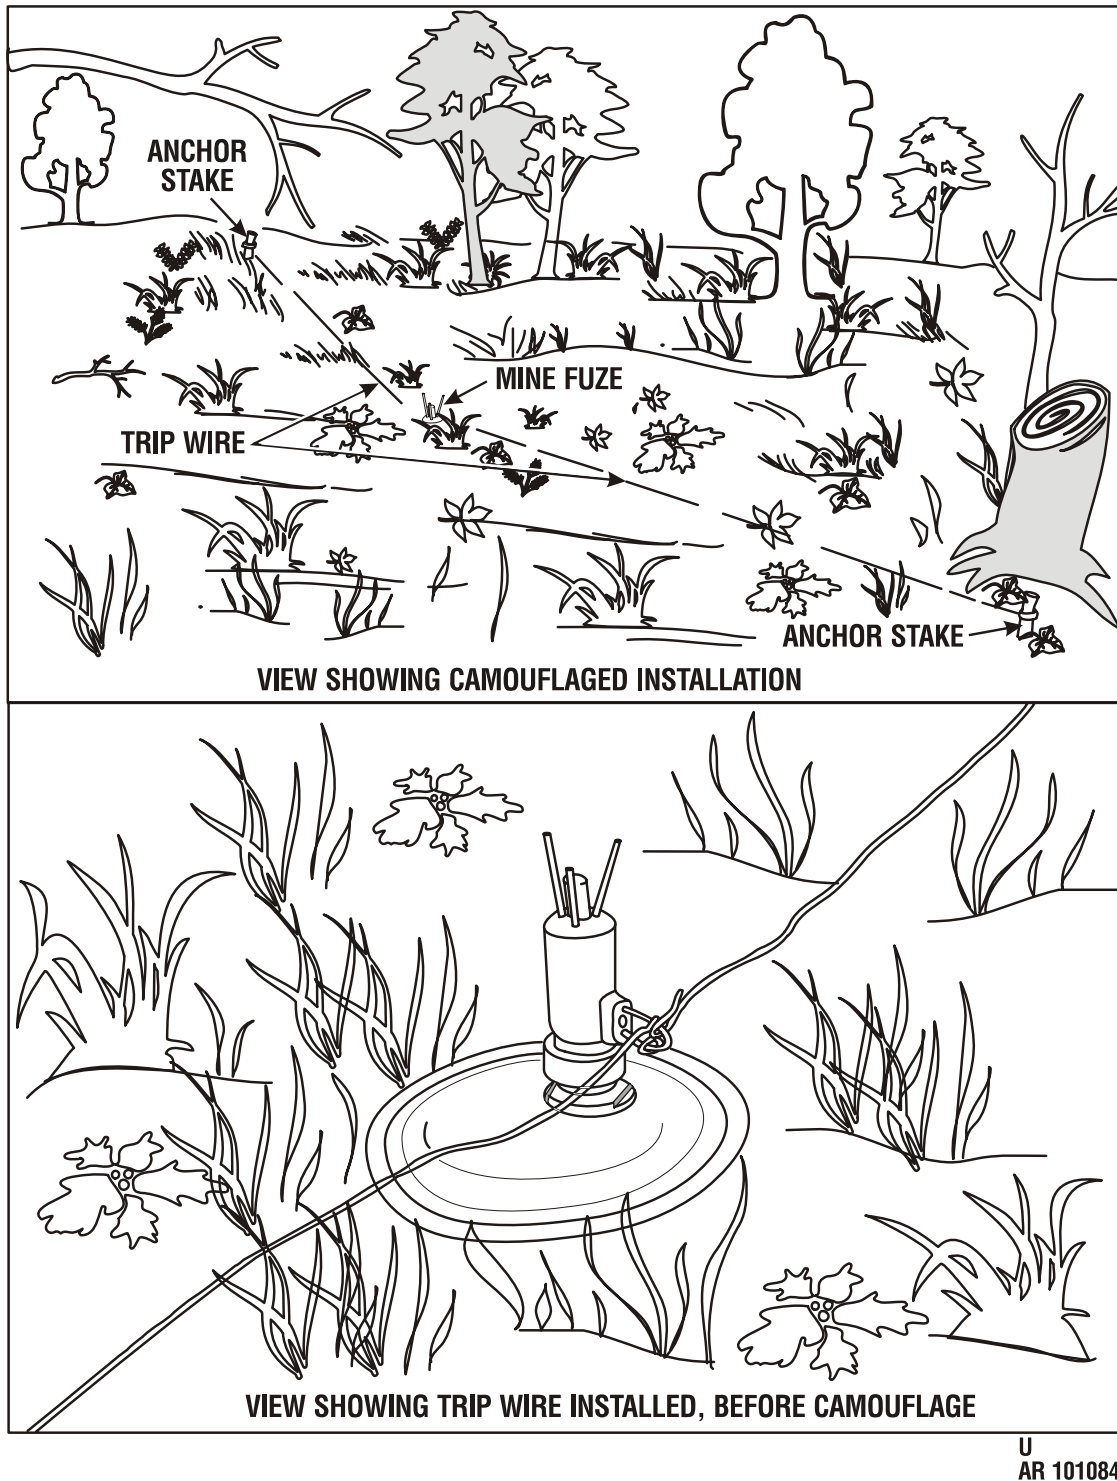

Figure 2-7. Installation of tripwire for mine M16A2.
- (12) For tripwire installation (fig. 2-7) perform the following operation: